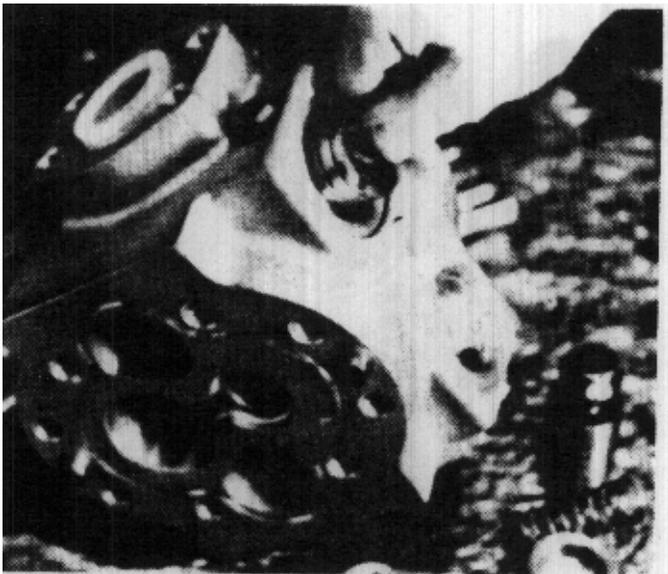

FIGURE 90
23. Remove spring (32) and piston (27). (Fig. 90)